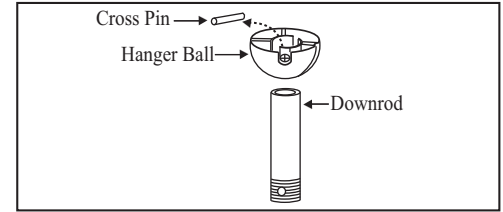

Figure 7
4. Remove hanger ball from downrod assembly by loosening set screw, removing the cross pin, and sliding ball off rod. (Figure 7)